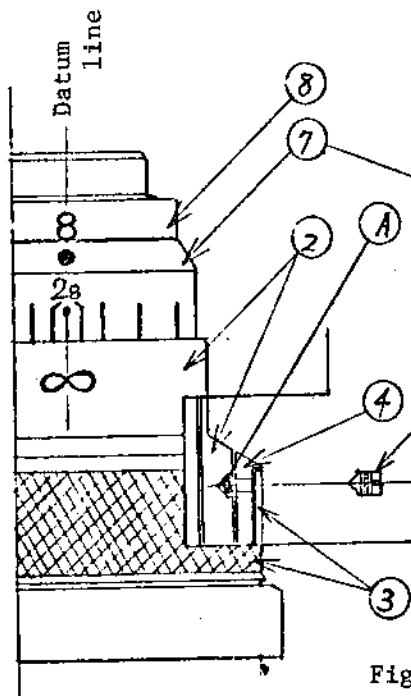

Fig. 2
Have the helicoid scale (2) slid into between the depth of field scale ring (7) and helicoid scale ring (4) and adjust them so as to have the center of infinite mark on the helicoid scale (2) and the green line of F2.8 of depth of field scale ring aligned with the datum line as shown in Fig. 2, and fix them lightly at one point by means of a set screw (5). At this time, apply locktite to the set screw. (The screw must be slightly below the surface.)